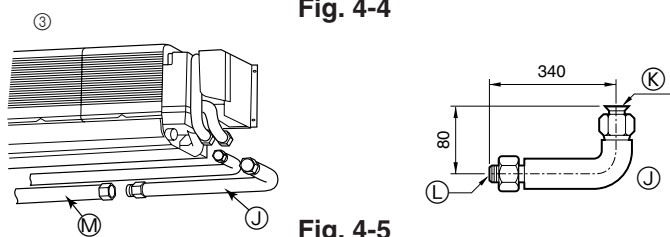

Fig. 4-5
- ③ L-shaped connection pipe (for gas piping) (Fig. 4-5)